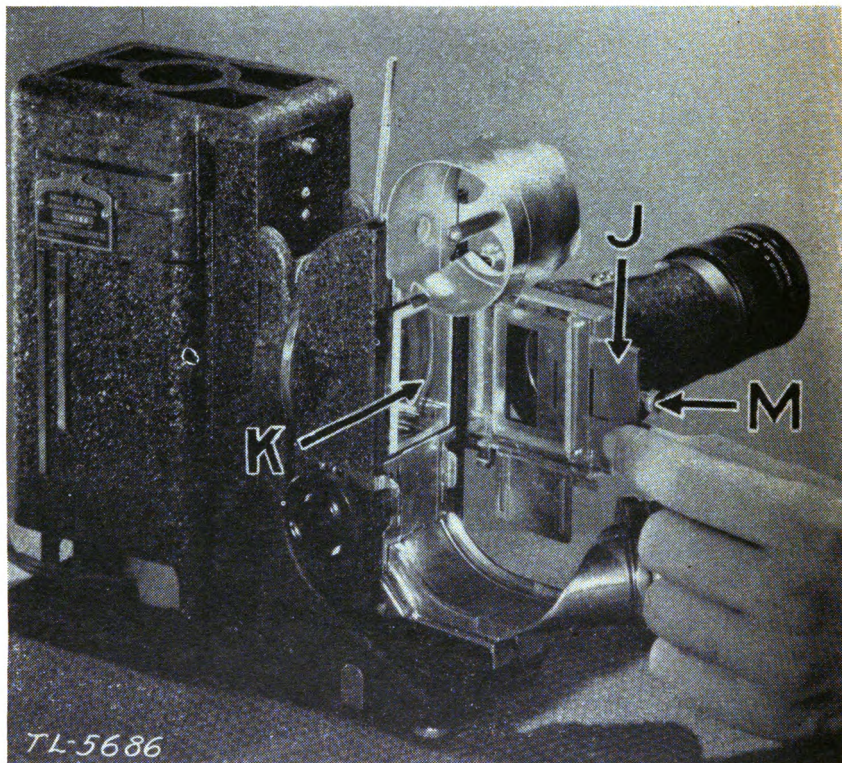

FIGURE 74.—Removing front aperture gate.
*d.* To project double-frame film strips, remove front aperture mask *J* by grasping the metal edge and sliding it completely out of mask frame (fig. 74). When using horizontal pictures, turn the projector head 90°.
**23. Use of slide carrier.**—*a.* For projecting 2- by 2-inch slides, open the film gate and remove front aperture mask frame by pulling knob *M* (fig. 74) on frame to right and away from film gate.
*b.* Remove rear aperture glass *K* (fig. 74) by grasping its sides and lifting lower end from trough.